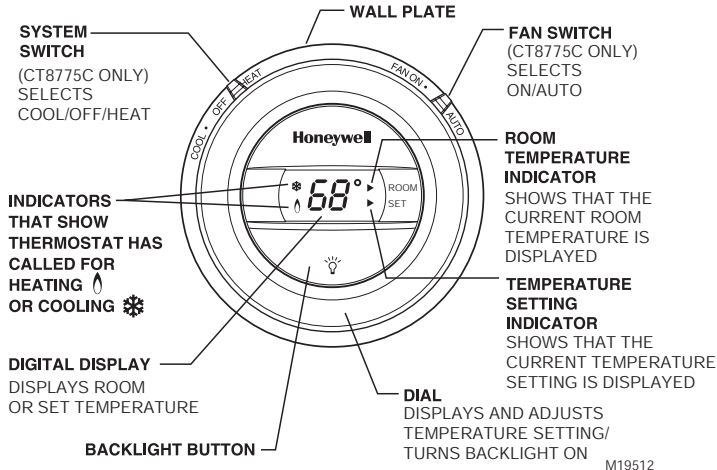

Fig. 5. CT8775 Thermostat (features and operation).
System Switch (see Fig. 5)
Fan Switch (see Fig. 5)
- ❑ The backlight can be turned on by turning the dial, or pushing the backlight button (see Fig. 5).